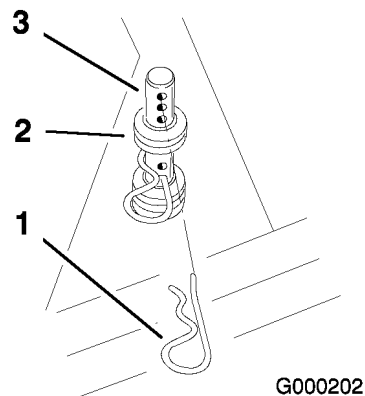

Figure 15
4. On the opposite side of the muffler, install unused spacers onto front and rear height-of-cut pins and insert the hairpin cotter pins (Figure 15).